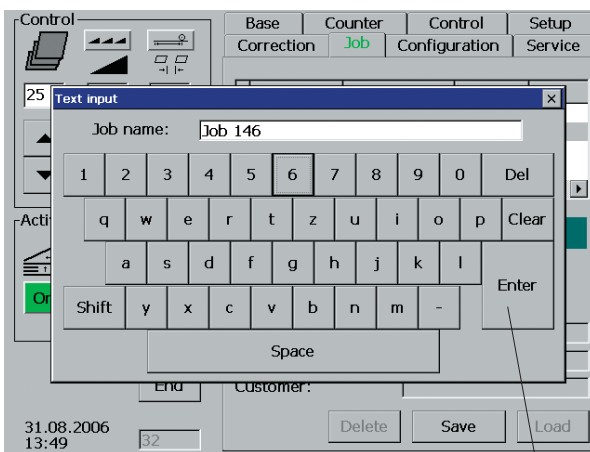

Fig. 75 Changing the job name
3. Confirm by touching the *Enter* key (Fig. 75/1).